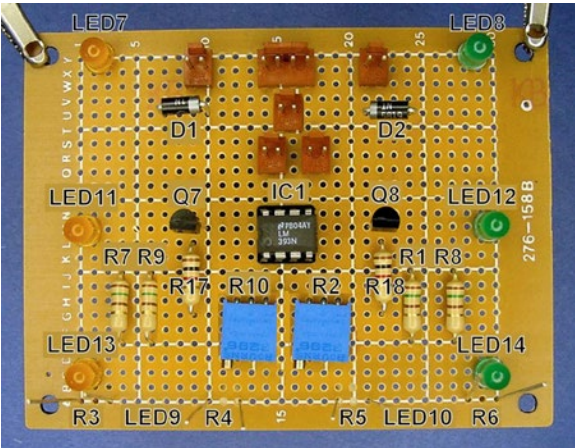

Figure 23-5. Breadboard with line-following circuit laid out. R3, R4, R5, R6, LED9, and LED10 are on the underside of the board
3. Lay out the components onto the breadboard (see Figure 23-5). Try to place components so that they are nearest the other components to which they will connect. This reduces the length of the wires and reduces the number of wires that cross over each other.
A suggested layout appears in Figure 23-5. Notice that the LEDs are distributed on the far sides to increase visibility. The comparator is in the center flanked by transistors because the comparator connects to the greatest number of components. The brightness balancing and headlight brightness-adjusting trimpots are far forward to make them easy to reach from the front of the robot.